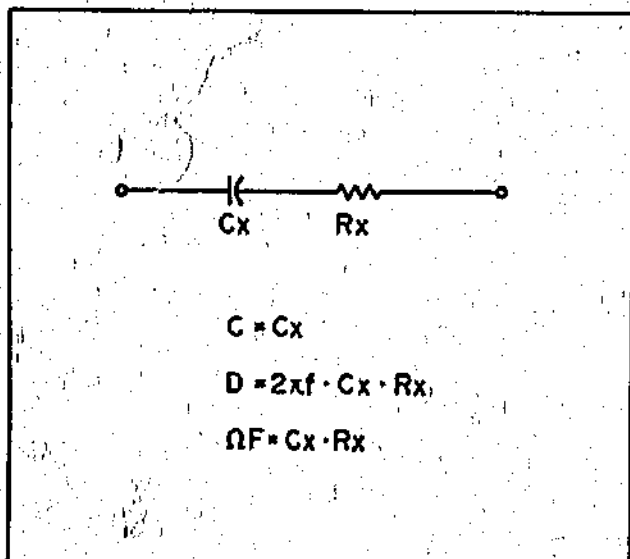

Figure 3-1. Series Equivalent Circuit.
3-7. Basic characteristics of the unknown capacitor are represented as a series equivalent circuit in Figure 3-1 and are measured by the Four-Terminal Method. Measurable characteristics are capacitance (C), dissipation factor (D) and ohm-farad ( $\Omega F$ )\* as established by FUNCTION switch settings. When FUNCTION switch is set to C-D or C- $\Omega F$ , capacitance and dissipation factor or capacitance and ohm-farad are displayed alternately. The unit also features measurements with internal dc bias up to +10volts.
3-23. When FUNCTION switch is set to C, capacitance C (shown in Figure 3-1) is measured in 9 ranges of 10nF to 1F full scale. Display is four full digits with 18% overranging. When C RANGE switch is set to an improper position, OVERLOAD and/or UNBALANCE annunciators will light, which indicates that C RANGE switch must be reset. Measured values are displayed with unit and decimal point after selecting proper range.
3-25. When FUNCTION switch is set to D, dissipation factor D (shown in Figure 3-1) is measured in 2 ranges of 1 or 10 full scale. Display is three full digits with 18% overranging. D range selection is automatic but UNBALANCE annunciator may light if C RANGE setting is not proper. Measured values are displayed automatically with decimal point.
3-27. When FUNCTION is set to  $\Omega F$ , the ohm-farad  $\Omega F$  (shown in Figure 3-1) is measured in 2 ranges of 1 $\Omega mF$  or 10 $\Omega mF$  full scale. Display is three full digits with 18% overranging.  $\Omega F$  range selection is automatic but UNBALANCE annunciator may light if C RANGE setting is improper. Measured values are displayed with unit and decimal point. This value divided by C value displayed when FUNCTION switch is set to C equals value of equivalent series resistance  $R_x$  (see Figure 3-1).
3-29. When FUNCTION switch is set to C-D, capacitance C and dissipation factor D (shown in Figure 3-1) are measured alternately. Measurement capabilities are the same as if functions were selected individually except for alternating measuring rate which is set by RATE control.
3-31. When FUNCTION switch is set to C-ΩF, capacitance C and ohm-farad ΩF (shown in Figure 3-1) are measured alternately. Measurement capabilities are the same as if functions were selected individually, except for alternating measuring rate which is set by RATE control.